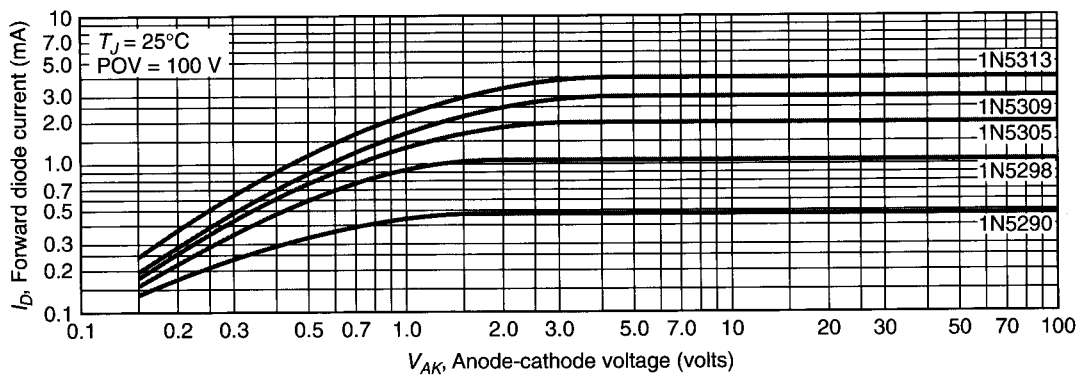

FIGURE 5.10 Current regulator forward operating curves. (Copyright of Semiconductor Component Industries, LLC. Used by permission.)
Constant-current diodes are drastically different from any of the diodes you have seen so far. As stated earlier, a constant-current diode *maintains a relatively constant device current over a wide range of forward operating voltages*. As such, a constant-current diode is often referred to as a **current regulator diode**. The forward operating curves for five current regulator diodes are shown in Figure 5.10.
When a conventional *pn*-junction diode is forward biased,  $V_F$  is approximately 0.7 V, and  $I_F$  is determined by the components in the diode circuit. This does not hold true for the constant-current diode. As the forward curve in Figure 5.10 shows, the value of  $V_F$  for a constant-current diode can have a wide range of values, in this case anywhere from 0.1 to 100 V. At the same time, the value of  $I_F$  for the constant-current diode is limited by the diode itself, not by the components in the diode circuit. For example, the 1N5290 curve shows that the value of  $I_F$  for the device increases as  $V_F$  increases from 0.15 V to approximately 1.5 V. At that point, the diode regulates the value of  $I_F$  to around 500  $\mu\text{A}$  (0.5 mA).
For reasons that you'll see in a moment, we start our coverage of the *electrical characteristics* with the last rating given, the **maximum limiting voltage ( $V_L$ )**. The  $V_L$  rating indicates *the voltage at which the diode begins to regulate current*. For the 1N5290, the value of  $V_L$  is 1.05 V. This is lower than the value of  $V_L$  that we obtained from the current versus voltage graph in Figure 5.10 because it is measured at  $0.8I_P$ .
The **regulator current ( $I_P$ )** rating is the *regulated value of forward current for values of  $V_F$  that are between  $V_L$  and POV*. As long as the forward voltage is kept between the rated values of  $V_L$  and POV, the current through the diode is maintained at the value of  $I_P$ . Note that the *nominal* value of  $I_P$  for the 1N5290 is shown to be 470  $\mu\text{A}$  (0.47 mA). This is very close to the value provided by the current versus voltage graph in Figure 5.10.
14. Based on the curves in Figure 5.10, what is the relationship between the rated forward current ( $I_D$ ) of a current regulator diode and the range of  $V_{AK}$  over which  $I_D$  is constant?